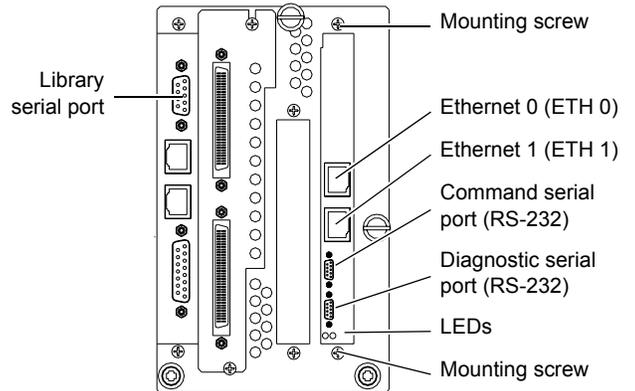

Figure 3 MC300 PMC Ports and Indicators
Once you have installed the MC300 PMC, attach the interconnect cable from the diagnostic serial port on the MC300 PMC to the library serial port (see figure 3).
- 1 Connect an Ethernet cable from the ETH 0 port (see figure 3) on the MC300 PMC to one of the following: